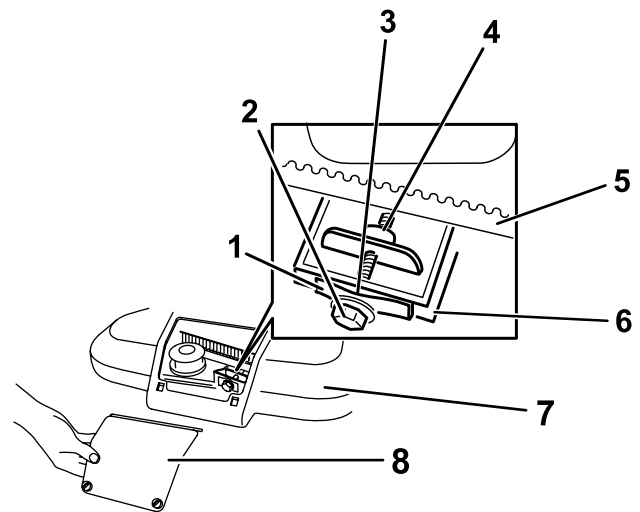

Figure 32
1. Loosen the 2 quarter-turn fasteners on the belt-cover-access panel and remove the panel (Figure 32).
Note: If there is a visible gap between the gauge and the spring, tighten the adjusting bolt and the nut until the feeler gauge barely slides freely in and out of the gap (Figure 32).